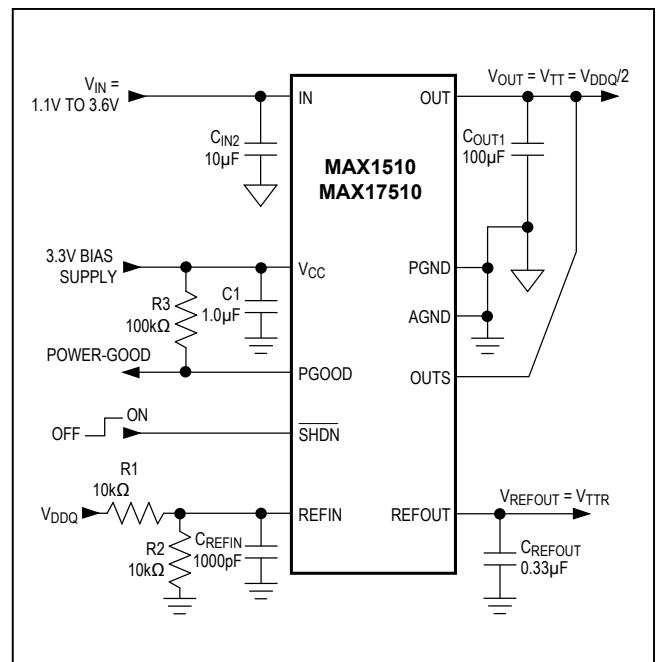

Figure 1. Standard Application Circuit
(V_{IN} = 1.8V, V_{CC} = 3.3V, V_{REFIN} = V_{O_{UTS}} = 1.25V, $\overline{\text{SHDN}}$ = V_{CC}, circuit of Figure 1, T_J = T_A = -40°C to +85°C for MAX1510ETB, T_J = T_A = -40°C to +125°C for MAX17510ATB, unless otherwise noted. Typical values are at T_A = +25°C.) (Note 1)
($V_{IN} = 1.8V$, $V_{CC} = 3.3V$, $V_{REFIN} = V_{OUTS} = 1.25V$, $\overline{SHDN} = V_{CC}$, circuit of Figure 1, $T_J = T_A = -40^\circ C$ to $+85^\circ C$ for MAX1510ETB, $T_J = T_A = -40^\circ C$ to $+125^\circ C$ for MAX17510ATB, unless otherwise noted. Typical values are at $T_A = +25^\circ C$.) (Note 1)
(Circuit of Figure 1. $T_A = +25^{\circ}\text{C}$, unless otherwise noted.)
(Circuit of Figure 1. $T_A = +25^\circ\text{C}$, unless otherwise noted.)
The MAX1510/MAX17510 are low-voltage, low-dropout DDR termination linear regulators with an external bias supply input and a buffered reference output (see Figures 1 and 2). V_{CC} is powered by a 2.7V to 3.6V supply that is commonly available in laptop and desktop computers. The 3.3V bias supply drives the gate of the internal pass transistor, while a lower voltage input at the drain of the transistor (IN) is regulated to provide V_{OUT}. By using separate bias and power inputs, the MAX1510/MAX17510 can drive an n-channel high-side MOSFET and use a lower input voltage to provide better efficiency.
The MAX1510/MAX17510 regulate OUTS to the voltage set at REFIN, making the devices ideal for memory applications where the termination supply must track the supply voltage. Typically, REFIN is set by an external resistive voltage-divider connected to the memory supply (V_{DDQ}) as shown in Figure 1. The maximum output voltage of 1.5V is limited by the gate-drive voltage of the internal n-channel power transistor.